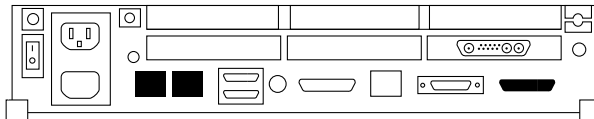

FIGURE 1-3 Rear View of the System
- FIGURE 1-3 shows the rear view of the system.